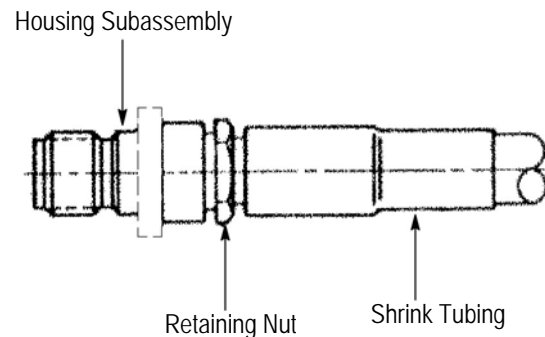

Figure 6
3. Position the shrink tubing over the ferrule as shown in Figure 6.